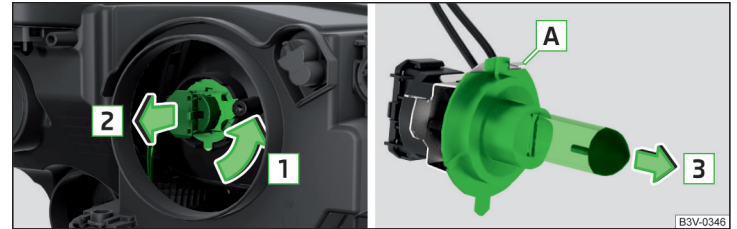

Fig. 362 Removing bulbs for low and main beam
- › Turn the holder with the bulb in the direction of arrow **1** » Fig. 362.